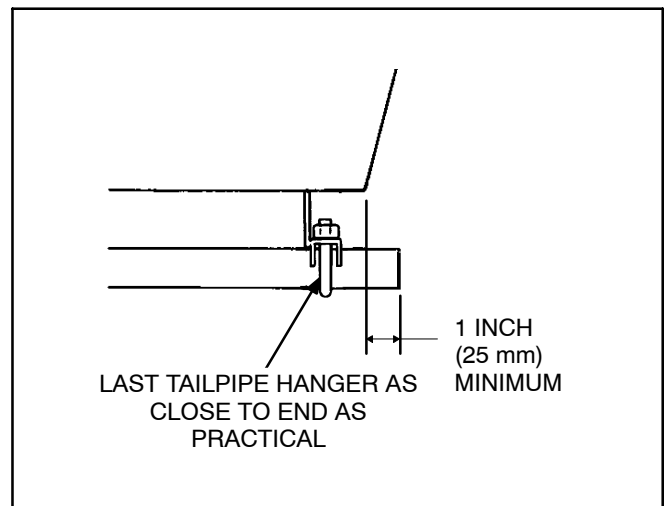

FIGURE 3-3. TERMINATING THE EXHAUST TAILPIPE
5. Do not terminate the tailpipe underneath the vehicle. Extend it a minimum of 1 inch (25 mm) beyond the perimeter of the vehicle (Figure 3-3). Support the end of the tailpipe such that it cannot be pushed inward and up under the skirt of the vehicle by backing up into a curb or other obstacle.